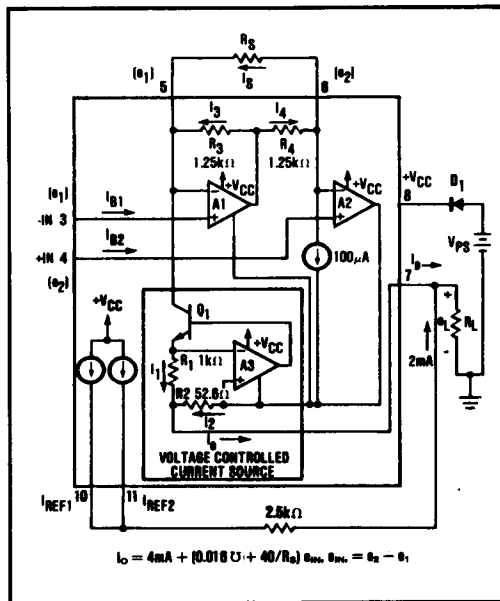

FIGURE 1. Simplified Schematic of the XTR100.
A simplified schematic of the XTR100 is shown in Figure 1. Basically the amplifiers, A1 and A2, act as an instrumentation amplifier controlling a current source, A3 and Q1. Operation is determined by an internal feedback loop. e1, applied to pin 3 will also appear at pin 5 and similarly e2 will appear at pin 6. Therefore the current in RS, the span setting resistor, will be  $I_S = (e_2 - e_1)/R_S = e_{IN}/R_S$ . This current combines with the current, I3, to form I1. The circuit is configured such that I2 is 19 times I1. From this point the derivation of the transfer function is straightforward but lengthy. The result is shown in Figure 1.
7. It is recommended that a reverse polarity protection diode ( $D_1$  in Figure 1) be used. This will prevent damage to the XTR100 caused by momentary (e.g., transient) or long term application of the wrong polarity of voltage between pins 7 and 8.